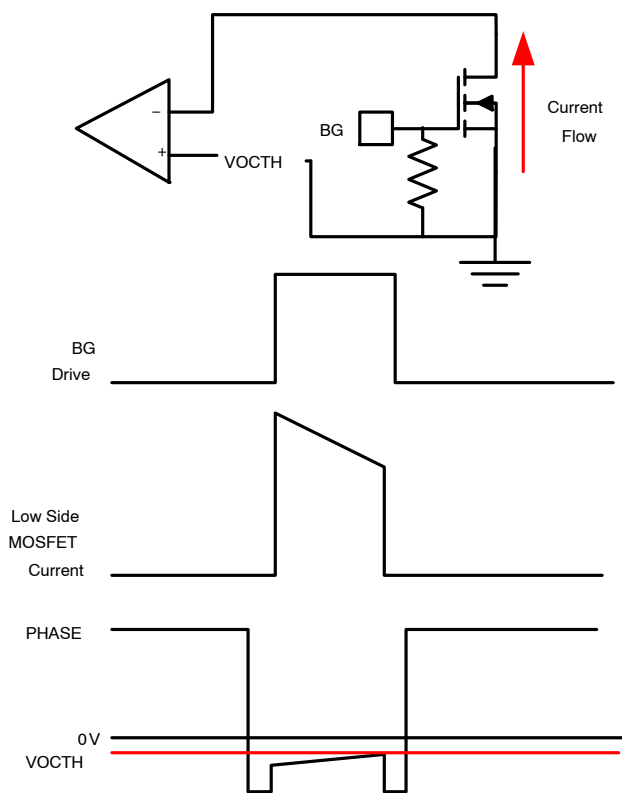

Figure 20. Current Limit Trip
In case of a short circuit or overload, the low-side (LS) FET will conduct large currents. The regulator will latch off, protecting the load and MOSFETs from excessive heat and damage. Low-side  $R_{DS(on)}$  sense is implemented at the end of each LS-FET turn-on duration to sense the current. While the low side MOSFET is on, the  $V_{SW}$  voltage is compared to the user set internally generated OCP trip voltage. If the  $V_{SW}$  voltage is lower than OCP trip voltage, an overcurrent condition occurs and a counter counts consecutive current trips. If the counter reaches 7, the PWM logic and both HS-FET and LS-FET are turned off. The regulator has to go through a Power On Reset (POR) cycle to reset the OCP fault as shown in Figure 20.